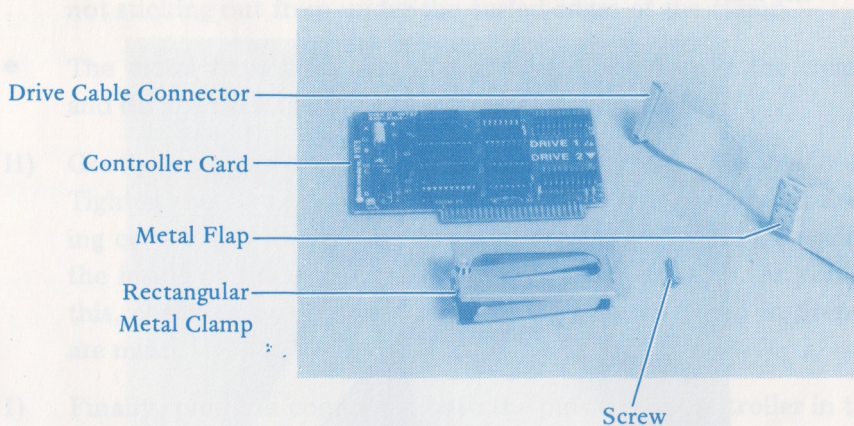

FIGURE 1 Items Required for Installation on Apple II, II plus
- FIGURE 1 : Items Required for Installation on Apple II, II plus
- D) Remove the clamp and screw (See Figure 1) from their container. Note that a small round nut is attached to one side of the clamp, centered over the holes in the clamp. With one hand, squeeze together the sides of the clamp. With your other hand, slide the screw into the hole in the side of the clamp farthest from the nut. Slide the screw through to the side of the clamp with the nut. Then turn the screw a few times until its end is flush with the nut.